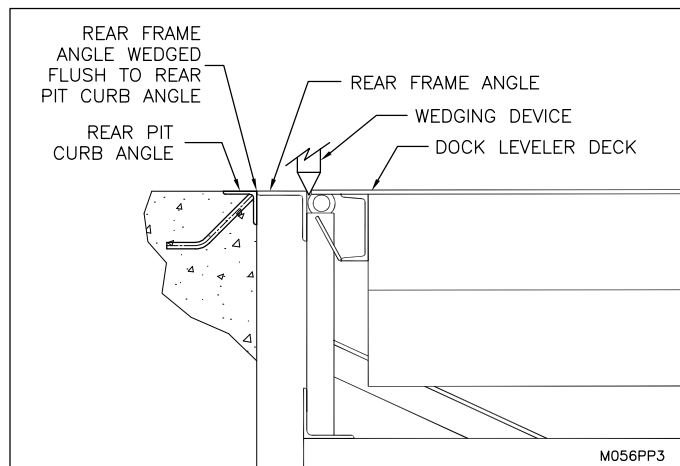

Figure 15: Wedging the Rear Frame Angle to the Rear Pit Curb Angle
4. ___ Make sure the rear pit curb angle is straight and level prior to installation. Make sure the dock leveler rear frame angle (or flat bar) is straight to match the rear pit curb angle. If the rear frame angle (or flat bar) is not straight then force the angle back to match the straight rear pit curb angle using a wedging device between the frame angle and the back of the deck as shown in "Figure 15: Wedging the Rear Frame Angle to the Rear Pit Curb Angle" on page 13. Tack weld the straightened angle to the rear pit curb angle. Repeat the wedging process as required over the length for the rear frame angle.
4. ☐ Make sure the rear pit curb angle is straight and level prior to installation. Make sure the dock leveler rear frame angle (or flat bar) is straight to match the rear pit curb angle. If the rear frame angle (or flat bar) is not straight then force the angle back to match the straight rear pit curb angle using a wedging device between the frame angle and the back of the deck as shown in "Figure 15: Wedging the Rear Frame Angle to the Rear Pit Curb Angle" on page 13. Tack weld the straightened angle to the rear pit curb angle. Repeat the wedging process as required over the length for the rear frame angle.